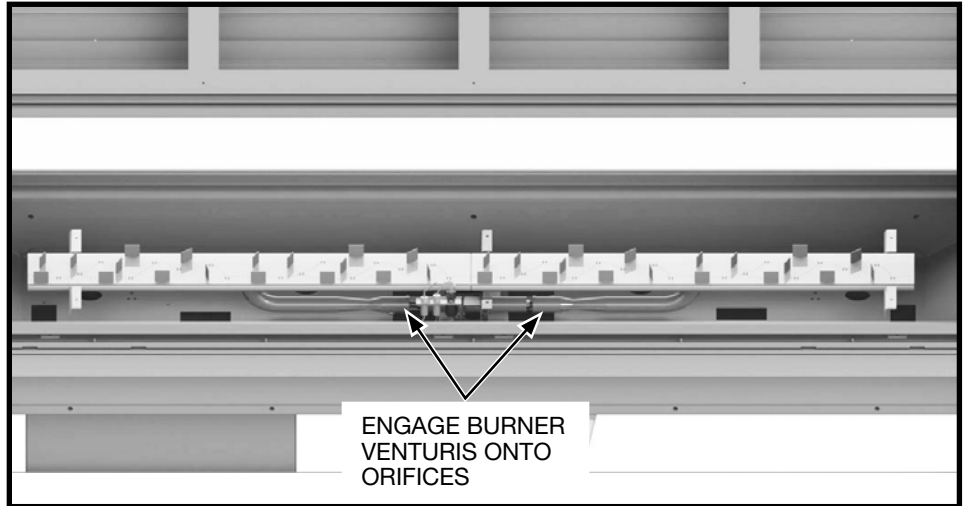

Figure 44: ng04 Burner installation.
4. Install burners as shown in Figure 44. Be sure to engage the venturis onto the orifices in the manifold and rest burners together on the center tray leg.